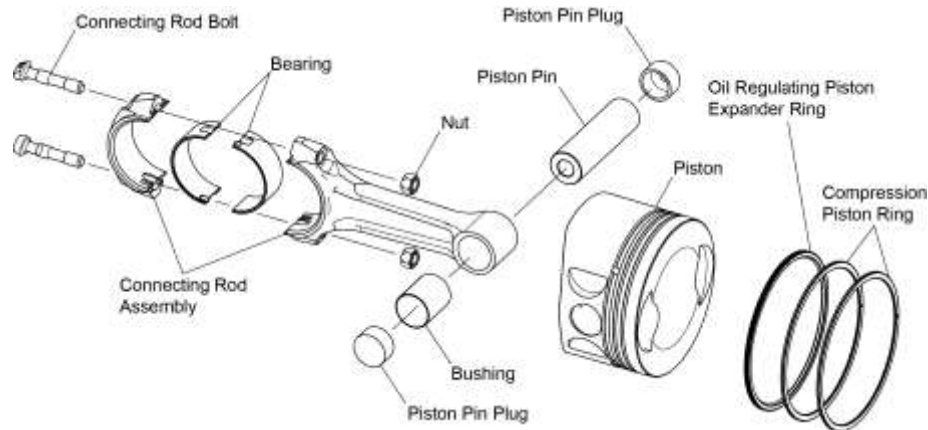

Figure 20
NOTICE: During removal of each piston pin (Figure 20), the piston will disconnect from the connecting rod. Support the connecting rod to prevent damage to the connecting rod and crankcase.
- A. Support the piston and remove the two piston pin plugs (Figure 20) and piston pin from the piston.
- D. Start from the top down, use the Piston Ring Expander (P/N 64713) to remove the two top compression rings and the oil regulating piston expander ring (Figure 20).